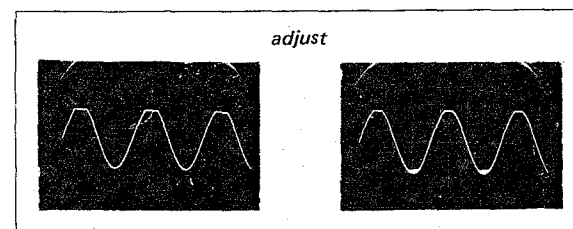

Fig. 5-3 Ac balance adjustment
2. While watching the waveform on the oscilloscope, alternately turn the VOLUME control and adjust RV104. Set RV104 so that the positive and negative peaks of the output waveform are simultaneously clipped (as shown in Fig. 5-3) when increasing the VOLUME control just beyond the point that causes distortion.